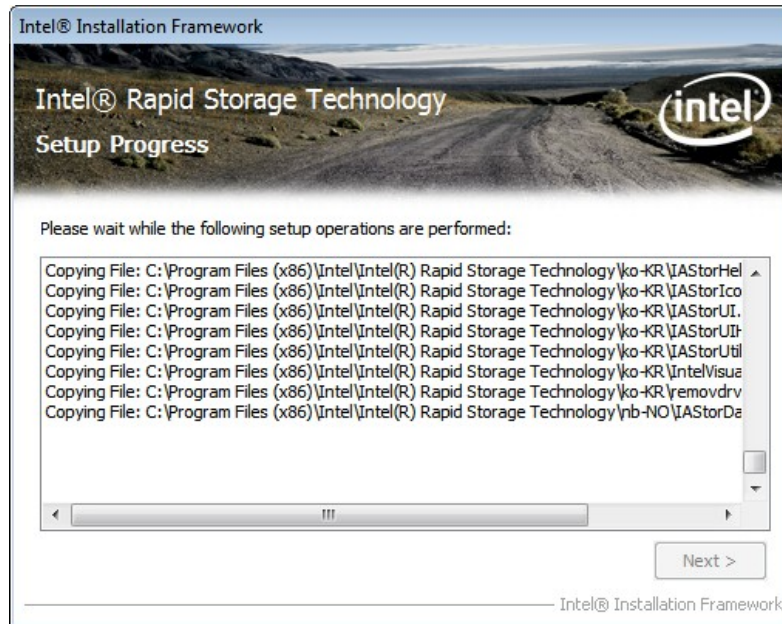

Figure 6-26: SATA RAID Driver Setup Operations
Step 11: Setup Operations are performed as shown in **Figure 6-26**.